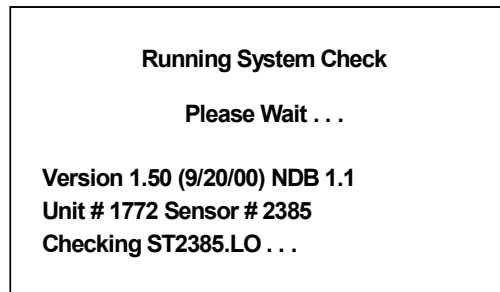

Figure 6. System Check Screen
B. Press **CANCEL**. If **CANCEL** is pressed, the system will revert to the system check screen in Figure 6.